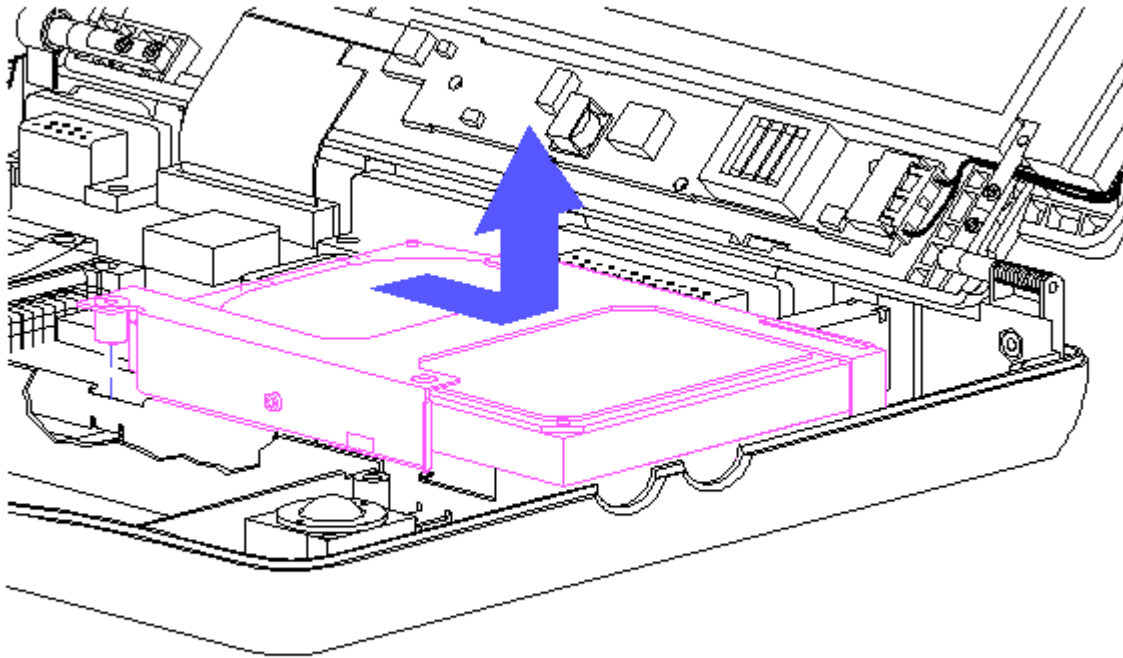

Figure 3-44. Removing the Hard Drive
6. Remove the hard drive and bracket assembly from the system chassis by gently sliding the hard drive bracket horizontally off the system board connector (Figure 3-44).
7. After the connectors separate, lift the hard drive and the bracket straight up and out of the computer (Figure 3-44).